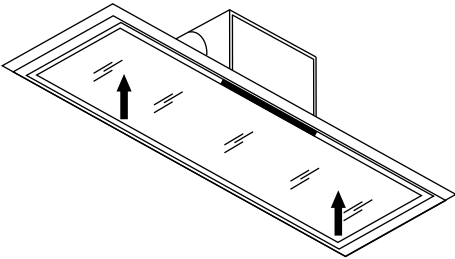

Fig 9
5. Push up at each side of the glass cover to shut (Fig 9).